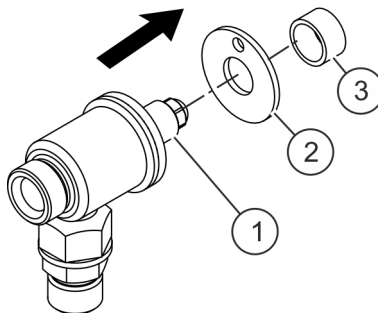

Fig. 19: Pull off insulating sleeve and insulating washer from seal screw
3. ➔ Pull off insulating sleeve (Fig. 19/3) and insulating washer (Fig. 19/2) from seal screw (Fig. 19/1).